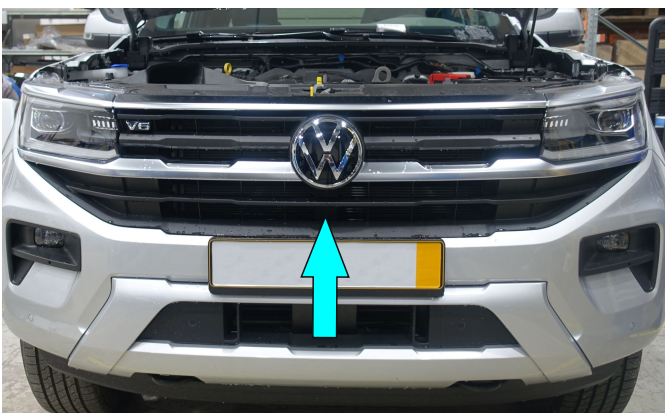

Fig.5
5. Remove radiator grille (fig.5).